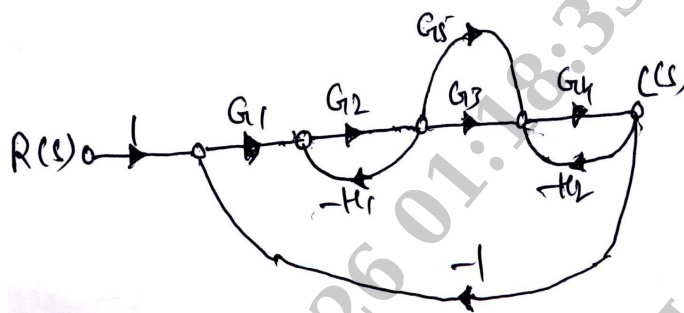

Fig.Q.3(b)
<p style="text-align: center;">Fig.Q.3(a)</p>
- b.** Find the overall transfer function by using Mason's gain formula for the signal flow graph shown in Fig.Q.3(b).